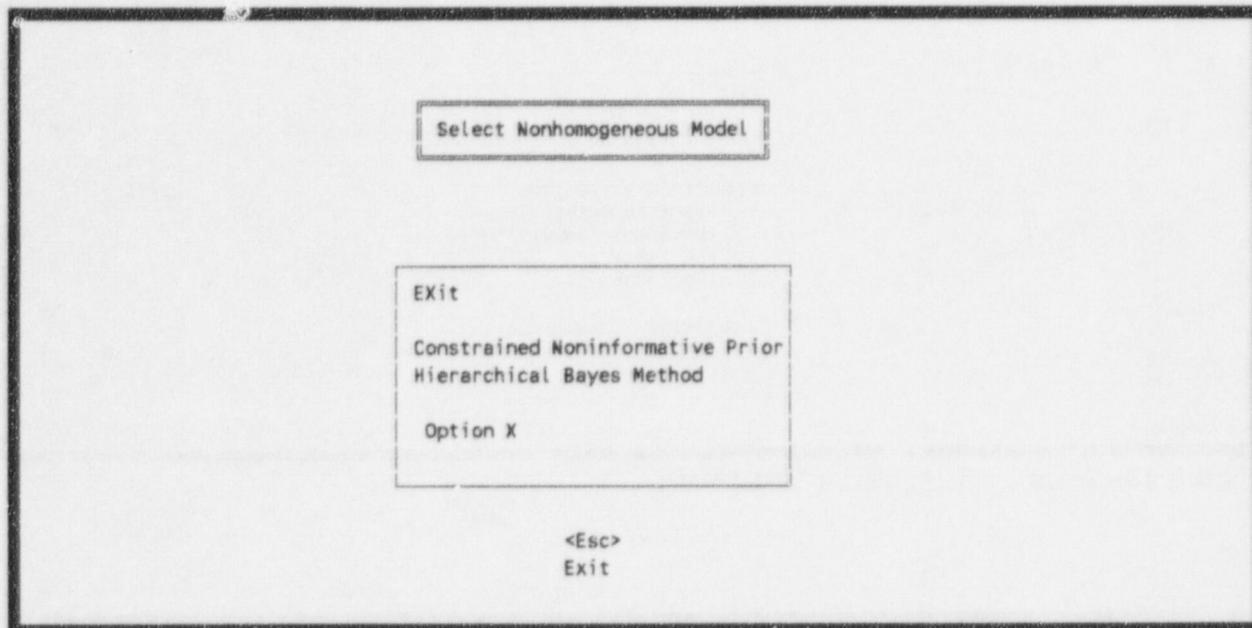

Figure 50. Specific—Nonhomogeneous Model menu.
**4.2.1.2 Nonhomogeneous Bayesian Distributions or Plant to Plant Distributions.** The Nonhomogeneous Bayesian Model Selection Menu is shown in Figure 50. Use the up and down arrow keys to highlight the appropriate model calculation method or type the highlighted letter into the Option field. Press <Enter> to access either the Constrained Noninformative Prior Method (see Section 3.4.1.2.1) or the